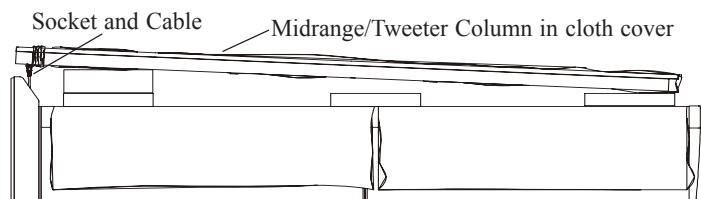

Figure 6
- Locate the Midrange/High Frequency Column and place it on top of the foam packing material placed in step 2, making sure the end with the draw cords is placed near the base end of the Low Frequency Column and the Grille is facing upwards. Refer to figure 6.